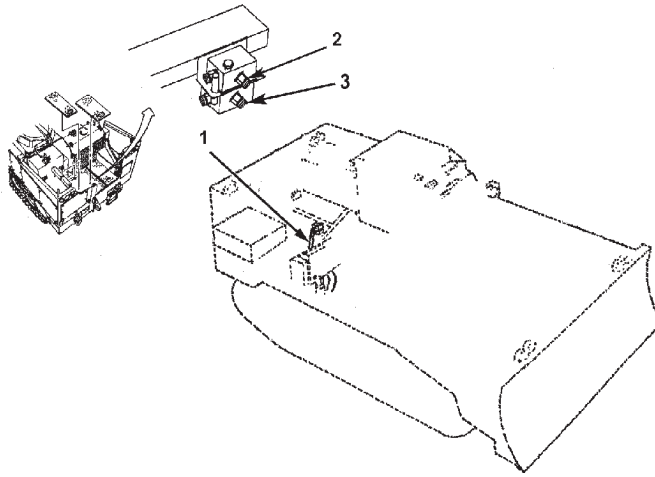

Figure 64. Installation of Blade Folder Hoses.
Step 1 applies to Figure 64.
1. Install two blade folder hoses (item 1) to top and bottom flow valves, port 2, (items 2 and 3) and route under radiator and up in front of radiator next to muffler plate.